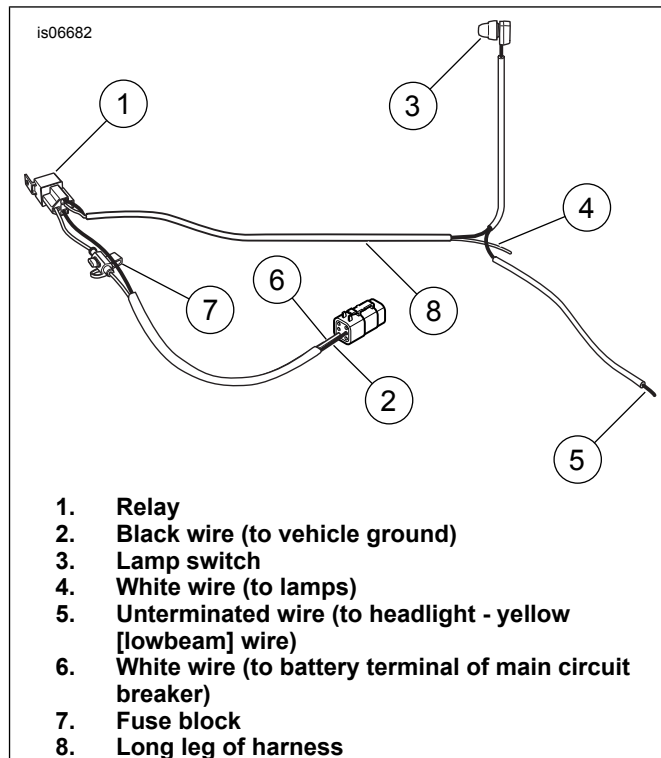

Figure 4. Wiring Harness Component Identification
See Figure 4 for wiring harness component identification.
14. See Figure 4. Route the harness past the steering head, and route the lamp switch (3) leg of the harness along the left side of the handlebar to the clutch control.